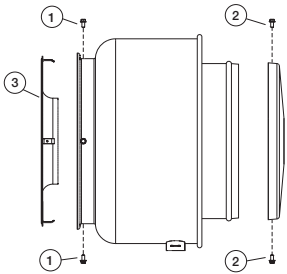

Figure 1
1. Remove mounting plate from unit by removing the fasteners marked by (1). Remove motor compartment cover by removing fasteners marked by (2). *Reference Figure 1.*